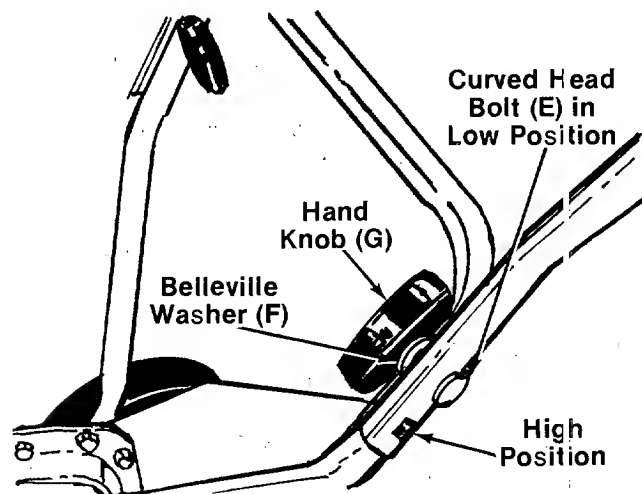

FIGURE 3.
3. There are two eight positions for the upper handles. Place left hand upper handle (with clutch grip and cable support bracket already assembled) in position on lower handle, selecting hole for either high or low position. Secure with curved head bolt (E), belleville washer (F) (cupped side against the handle) and hand knob (G). See figure 3. Do not tighten at this time. Assemble right hand upper handle in the same manner.